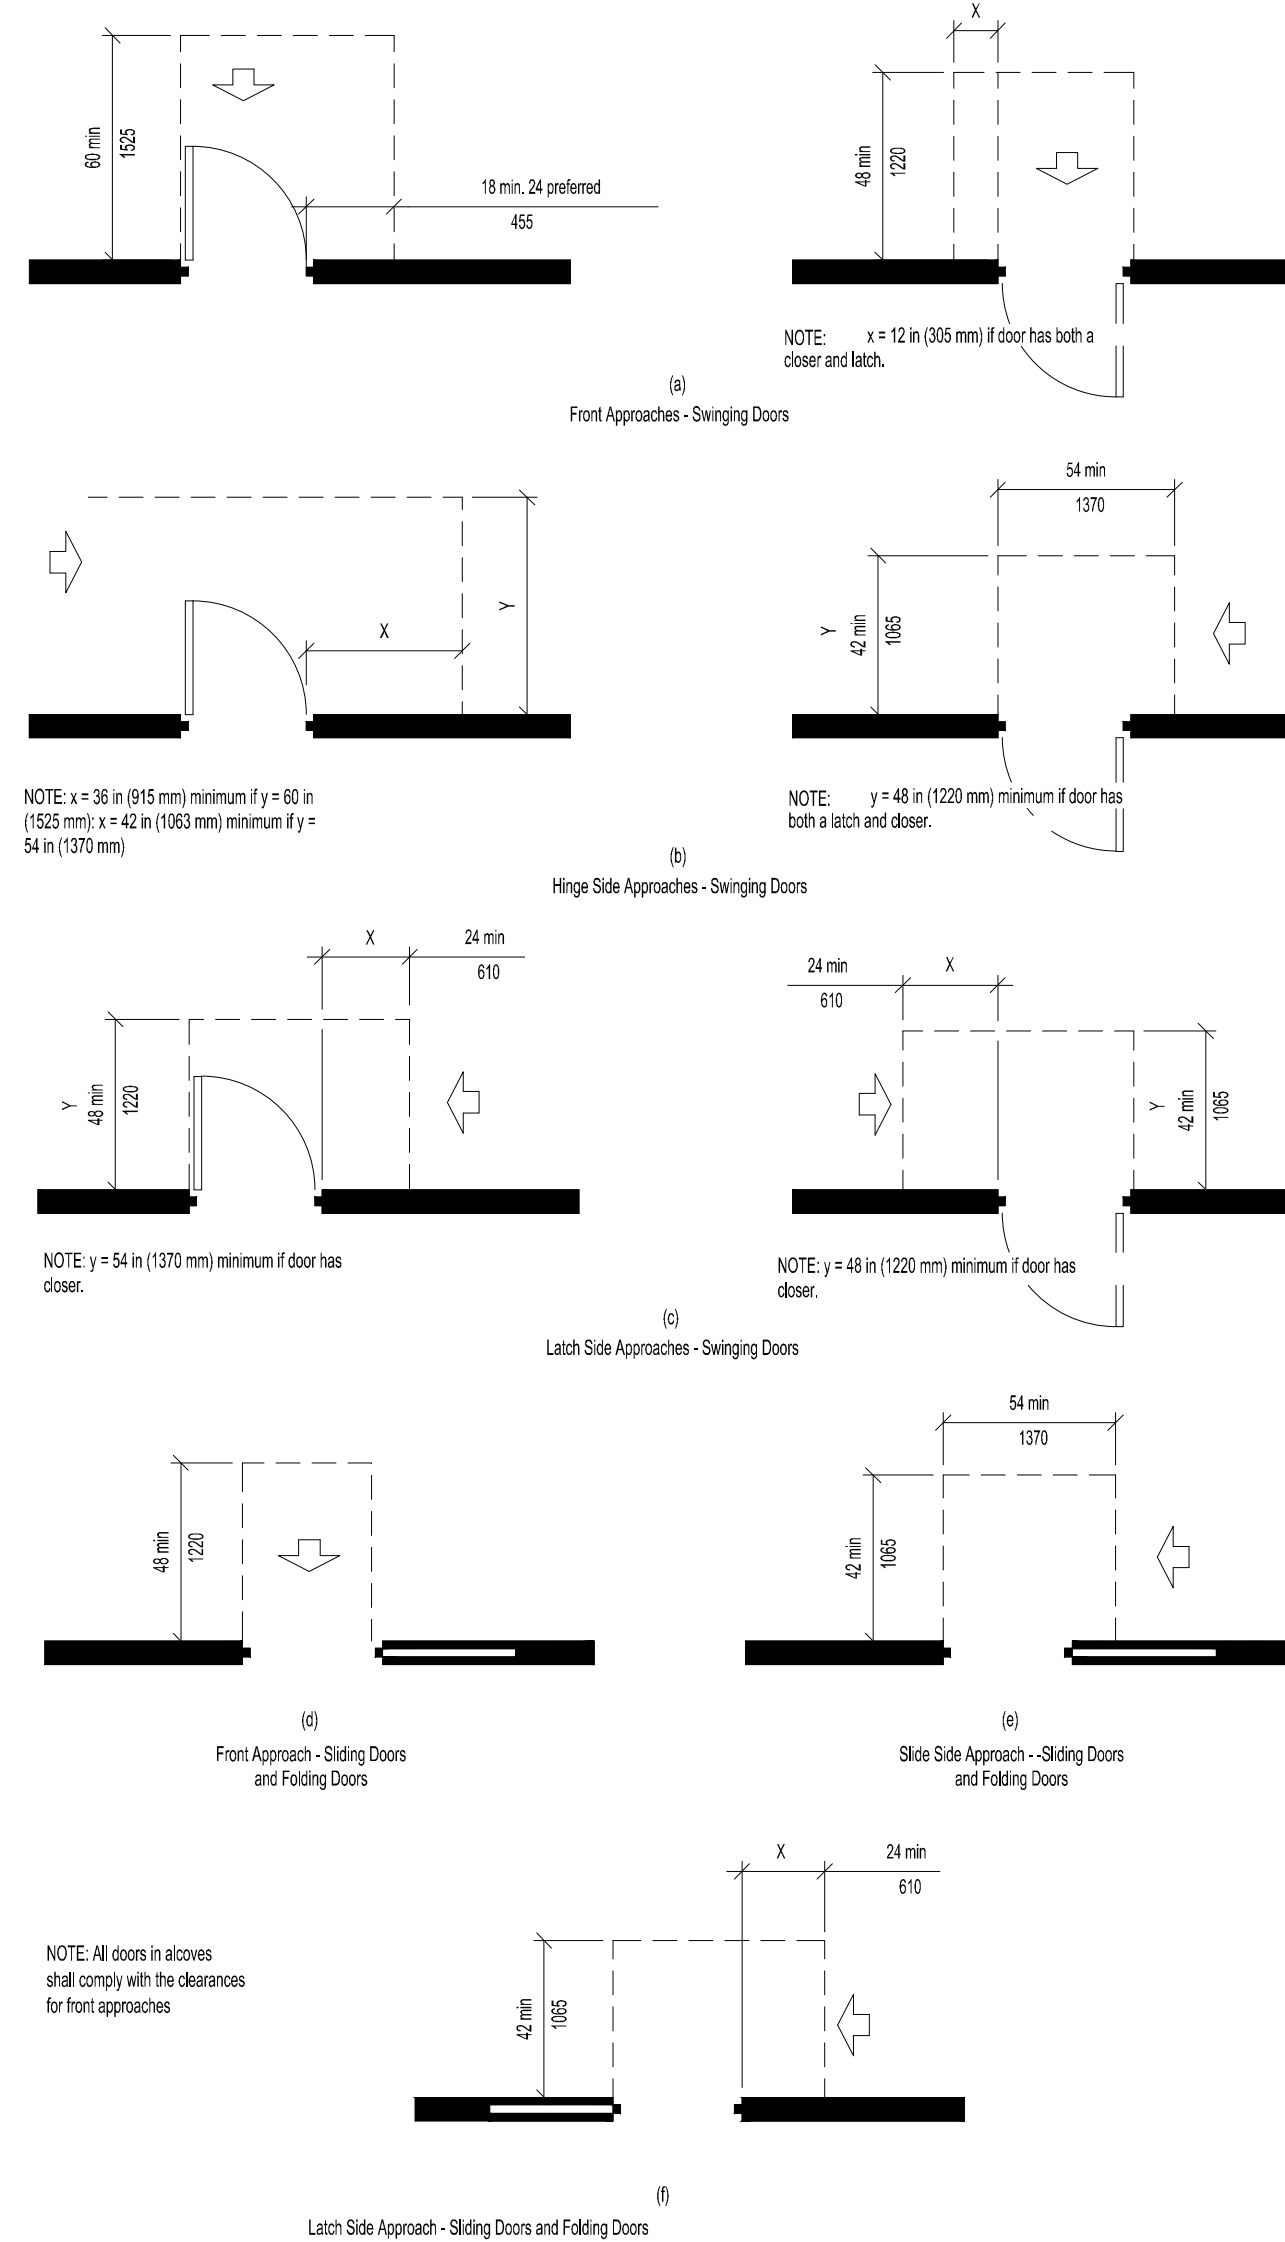

Fig. 25
4.13.6 Maneuvering Clearances at Doors. Minimum maneuvering clearances at doors that are not automatic or power-assisted shall be shown in Fig. 25. The floor or ground area within the required clearances shall be level and clear.
EXCEPTION: Entry doors to acute care hospital bedrooms for inpatients shall be exempted from the requirement for space at the latch side of the door (see dimension "X" in Fig. 25). If the door is at least 44" (1120mm) wide.